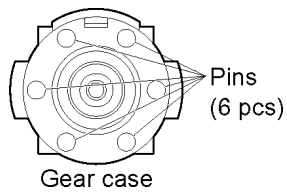

Fig.7
1. Start from inserting 6 pins into the driving block as shown in the Fig.7.